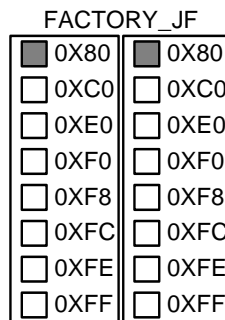

Figure 5: Edit Block View of DCM FACTORY_JF Settings
- Check the two 0X80 options for the FACTORY_JF DCM attribute, as shown in Figure 5.